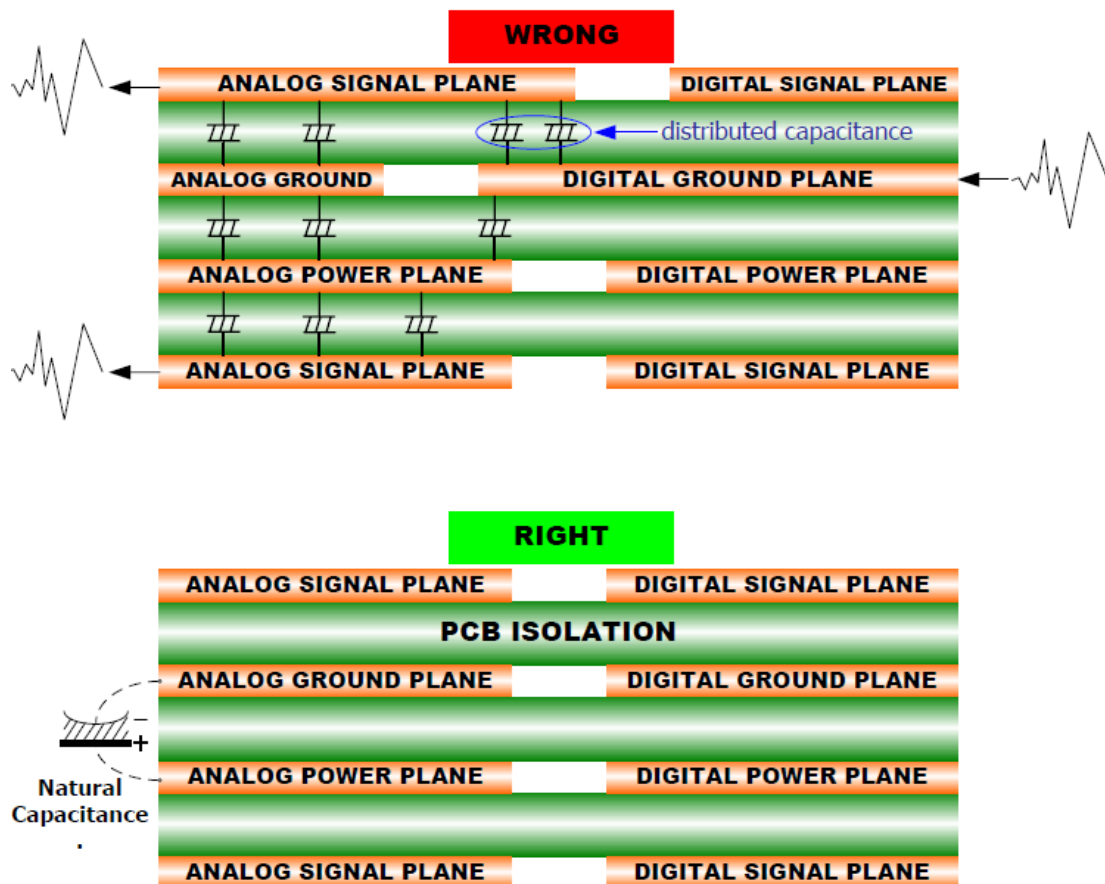

Fig.6 Cross section of PCB, the recommended separation for analog and digital plane.
6. For a layout that helps to reduce noise, separate analog and digital ground planes should be provided, with the digital components over the digital ground plane, and the analog components, including the analog power regulators, over the analog ground plane. In addition to ground planes scheme, digital and analog power supply planes should be partitioned directly over their respective ground planes. Placing analog power coincident with analog ground, and digital power coincident with digital ground (as Figure.6 - Recommended separation). If any portions of analog and digital plane overlap, the distributed capacitance (result from power plane reference to ground plane or signal plane reference to ground plane) between the overlapping portions will couple digital noise into the analog circuitry. This defeats the purpose of isolated plane (as Figure.6 - wrong separation). The power and ground planes should be separated by approximately 40mils for the four layer PCB design. Using power and ground planes forming a natural, high capacitive, bypass capacitor to reduce overall PCB noise.